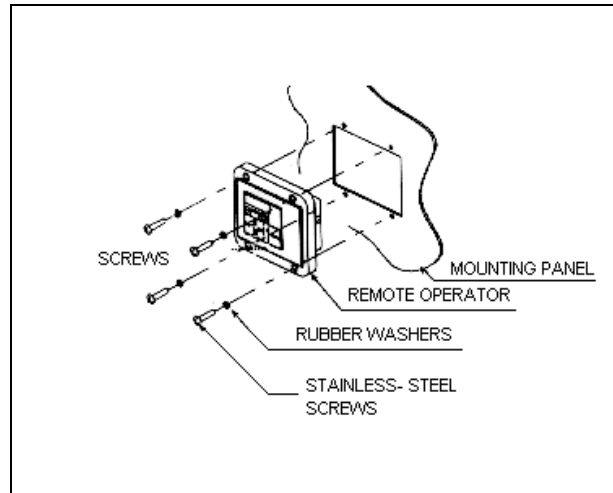

Figure 2: Surface Mount Installation
12. Finish the surface mount by installing the remote operator on the front side of the panel. Insert a rubber washer on each screw and then insert the screws through the front side of the panel. Four washers and four nuts are not needed in this application. Tighten screws gradually by hand to prevent damaging the rubber washers. See Figure 2.